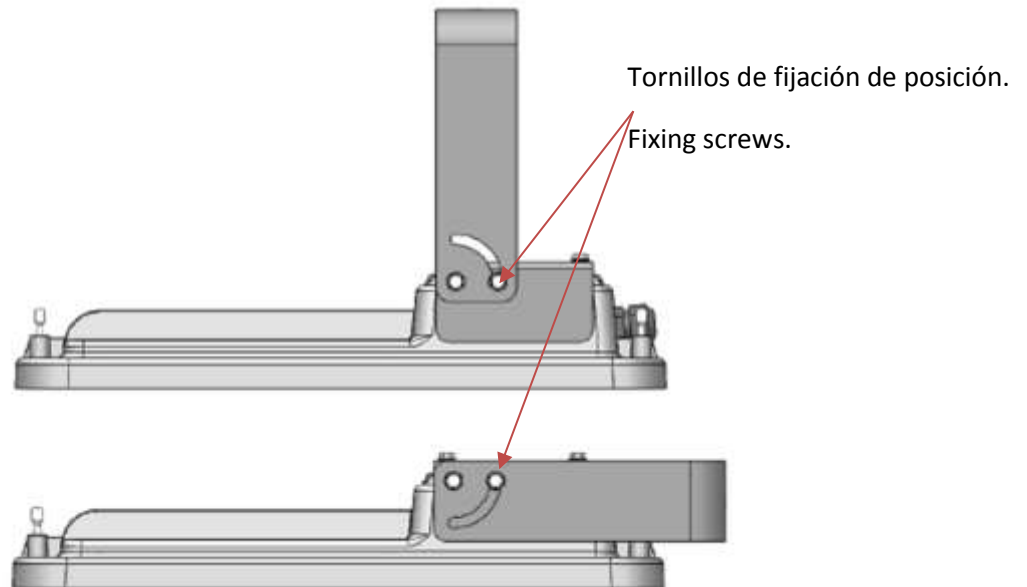

Fig. 6
- It is possible to install the projector in any position between 0 and 90°, as it is showed in fig. 6. Close the screws to fix the projector in the required position.